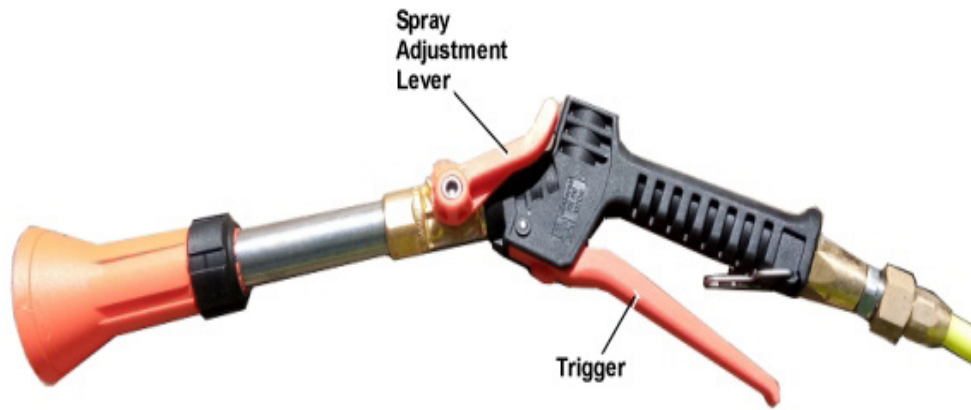

Figure 8 – Spray Gun (typical)
- Aim the hose's spray gun in the required direction and squeeze the trigger. Adjust the spray pattern by operating the lever on the spray gun handle, refer to Figure 8.